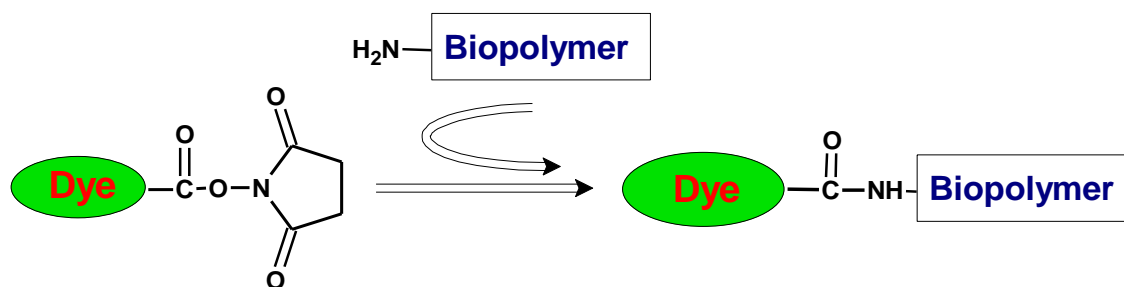

Figure 1. The succinimidyl ester group of fluorophore reacts with amine groups on the protein to form a stable carboxamide bond.
The AnaTag™ HiLyte Fluor™ 488 Protein Labeling Kit provides a convenient way to label proteins by using the succinimidyl ester (SE) reactive form of HiLyte Fluor™ 488. The succinimidyl ester shows good reactivity and selectivity with aliphatic amines of the protein and forms a carboxamide bond, which is identical to, and is as stable as the natural peptide bond (Figure 1). HiLyte Fluor™ 488-protein conjugates can sustain treatments during immunofluorescent staining, fluorescence *in situ* hybridization, flow cytometry and other biological applications without hydrolysis.